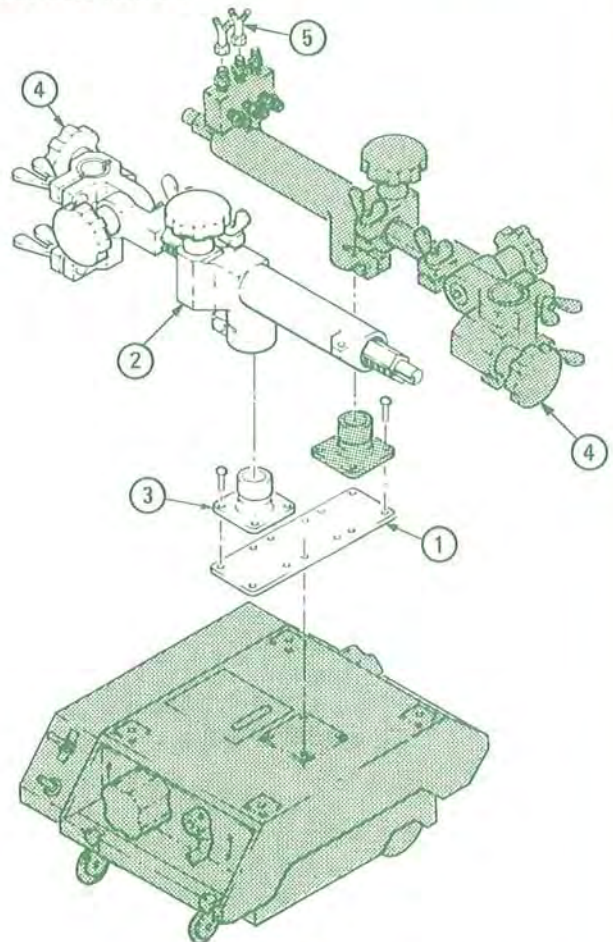

Figure 2-2.
Set up the optional dual torch mount assembly as shown in Figure 2-2. Install the dual torch mount plate (1) on the machine housing in place of the single torch mount post supplied with the standard machine package. Attach the removed single torch mount post, along with the second one supplied with the dual torch mount assembly, at the ends of the dual torch mount plate.